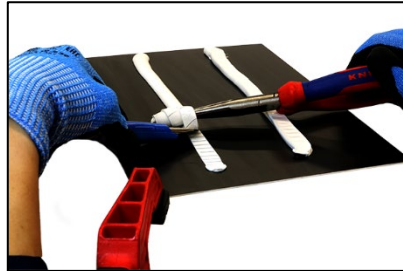

Figure 13 Twist the bead to get maximum peel tension; cut regularly
- Hold the separated part of the bead with a pair of needle-nose pliers and slowly turn the bead (applying peel stress), attempting to separate it from the substrate. Just before the adhesive breaks, cut the bead bottom down to the substrate as shown in Figure 13. This maximizes the peel effect.